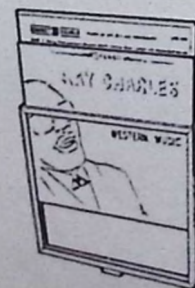

Figure 6b. Insertion of Album Jacket
Push holder up against album holder retainer spring and lift out as shown in Figure 6a. Remove records from the album jacket and insert two (2) jackets -- back to back as shown in Figure 6b. Replace loaded album holder in lid frame making certain that lip latches securely. Note that album holders are reversible so that either album jacket may be displayed by merely removing, turning around and re-installing.